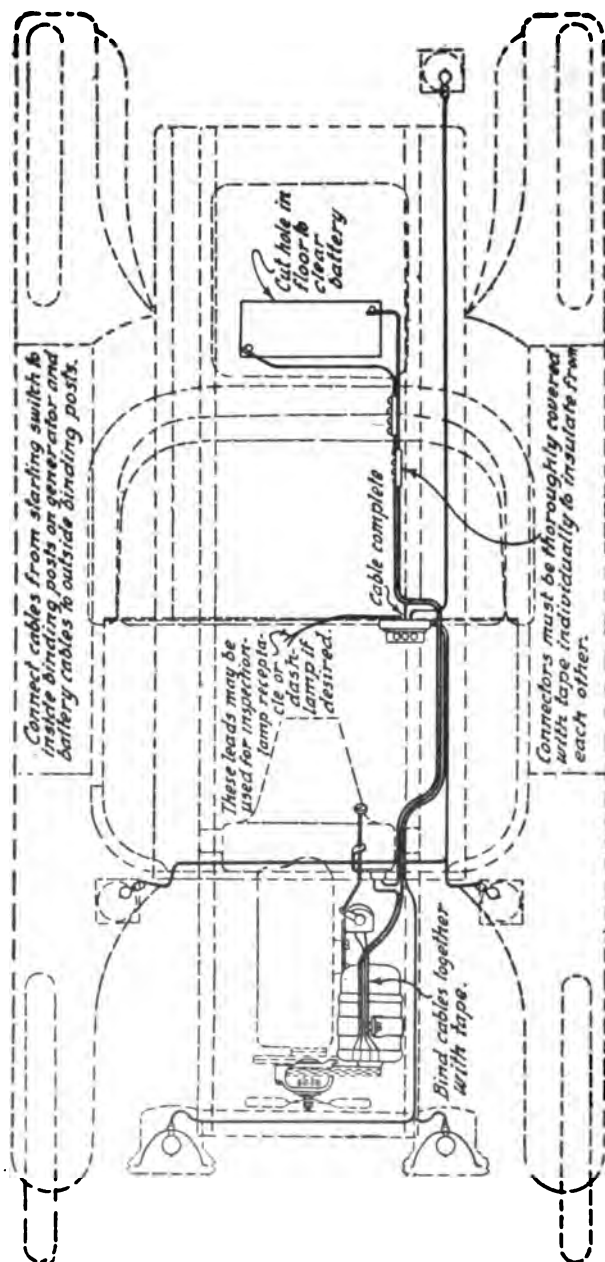
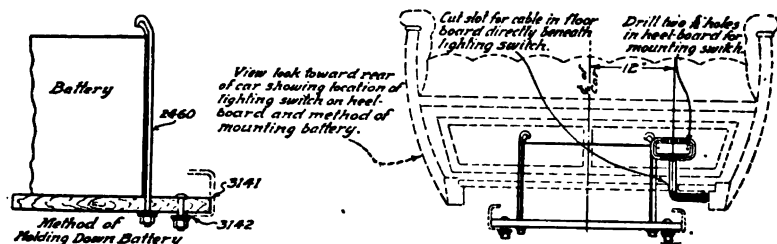

Fig. 407. Wiring Diagram for Complete North East Ford Installation
Fig. 408. Details of North East Switch Wiring
**Mounting Battery.** Install the battery on the runabout, as shown in Fig. 407; on touring cars the battery should be mounted under the rear seat, as far forward as possible. To mount the battery, cut holes through the floor board of the car, large enough to clear the battery. Lay the board 3141, Fig. 408, on the upper face of the lower flange of the frame panels and bolt firmly by using steel clamping strips 3142 placed on the underside of the channel frame. Now fasten the battery in place by means of the hook bolts 2460, being sure
When the car is not already equipped with electric lamps, it will be necessary to install new lights or to mount reflectors in the headlights and adapters, or sockets, in the side and the rear lamps. Mount the lighting switch and run wires to all the lamps and to the battery location, but do not connect the wires to the battery as yet. Also run the wires to the motor-generator, Figs. 407, 408, and 409. Special care should be taken that all the wires are made fast to the wood body and that the insulation on the wires is doubly protected by tape or circular loom where the wires pass through the sheet metal. For fastening the wires, use leather cleats and insulated staples as supplied.